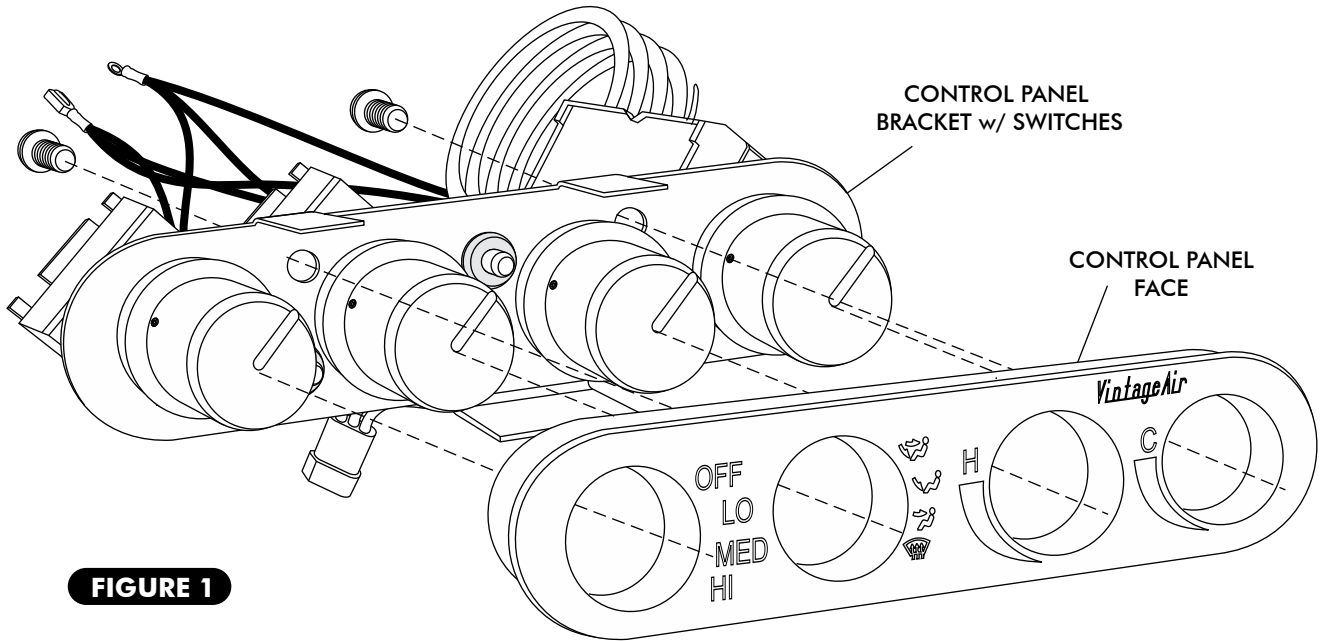

FIGURE 1
- REMOVE (3) CONTROL PANEL BRACKET MOUNTING SCREWS AND REMOVE THE CONTROL PANEL BRACKET WITH SWITCHES FROM CONTROL PANEL FACE. SEE FIGURE 1, PAGE 5